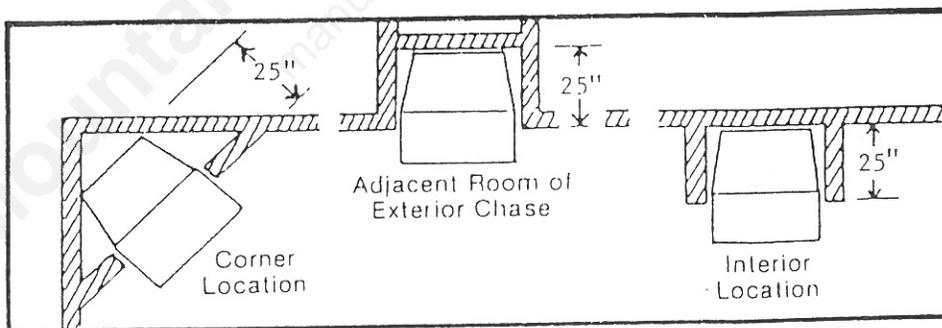

FIGURE 4
Below (Figure 4) are framing location examples with depth dimensions for some typical configurations. These are finished measurements so install accordingly.
2. Lay out the location on the floor for ZC cabinet. (See Figure 4)